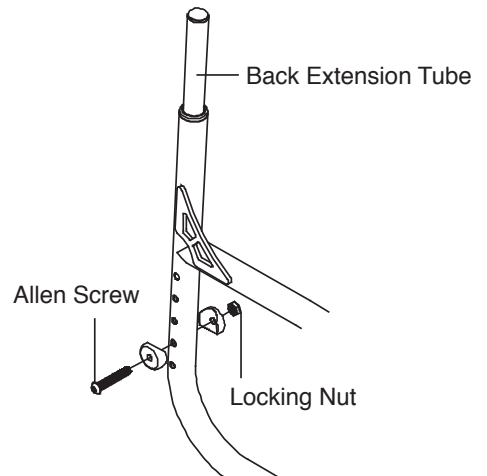
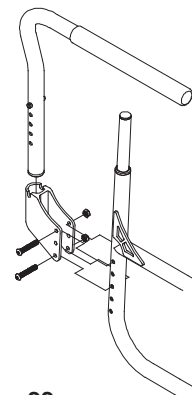

Figure 21
Figure 22
3. Remove the two Allen Screws (one on each side of the chair) that secure the back extension tubes inside the frame. See Figure 21. If your chair is equipped with swing-away armrests or stroller handles, the receiver will be attached to the frame with two screws, one of which will also secure the backrest extension on either side of the frame. See Figure 22. Carefully note the order in which the various washers and nuts (and any other parts, such as armrest receivers or stroller handle receivers) were originally installed on the chair as you will need to reinstall all of the parts in the exact same order in Step 5 below.
4. Adjust the backrest extension tubes to the desired height. See Figures 21 or 22.